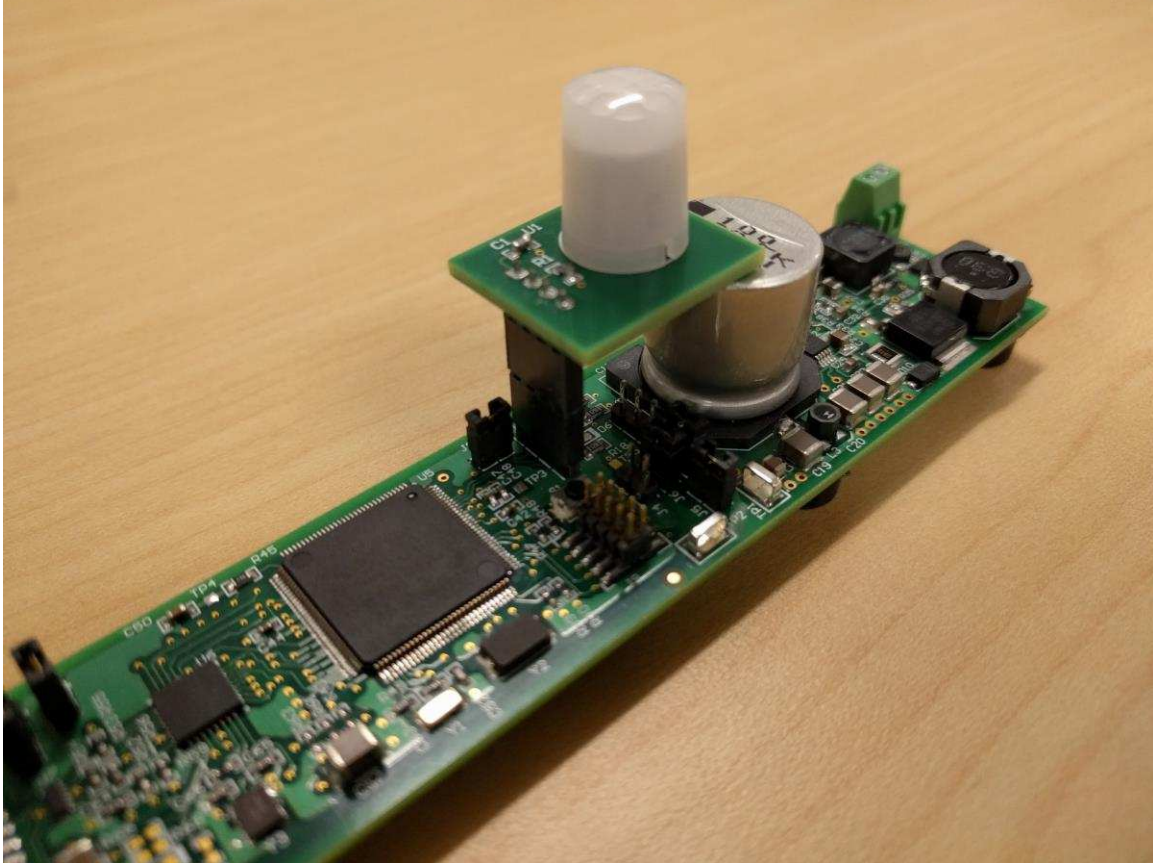

图 20. TIDA-01463 PCB With IR Sensor Attached
1. First, connect the IR sensor board to header J10 on the TIDA-01463 PCB. The board will function without the sensor. For the correct connection, the board must hang over the large capacitor, so an additional 4-pin header is included to ensure height clearance. 图 20 shows the orientation of the IR sensor board..